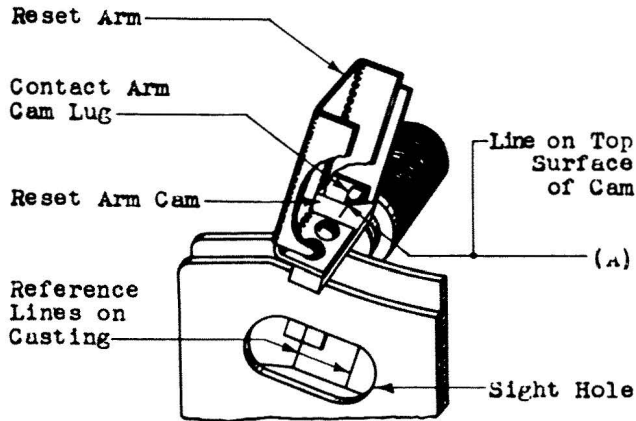

Fig. 12 - Method of Checking Relative Positions of Contact Arm Cam Lug and Reset Arm Cam
2.10 Relation Between Contact Arm Cam Lug and Reset Arm Cam - Fig. 12 (A): With the pendulum in the start position the cam shall be in contact with the contact arm cam lug at the point where the two plane surfaces on the cam face converge, as indicated by the line scribed on the top surface of the cam, when the reset arm is at the extreme end of its stroke. Gauge by eye.
To check the relation between the contact arm cam lug and the cam on the reset arm, insulate the solenoid control contacts, as specified for insulating relay contacts in Section 069-020-801 covering blocking of apparatus and insulating of contacts, and pull out key "B". This puts current on the solenoid, and the cam should engage the contact arm cam lug approximately at the point where the two plane surfaces on the cam face converge as indicated by the line scribed on the top surface of the cam when the reset arm is at the extreme end of its stroke as shown in Fig. 12.